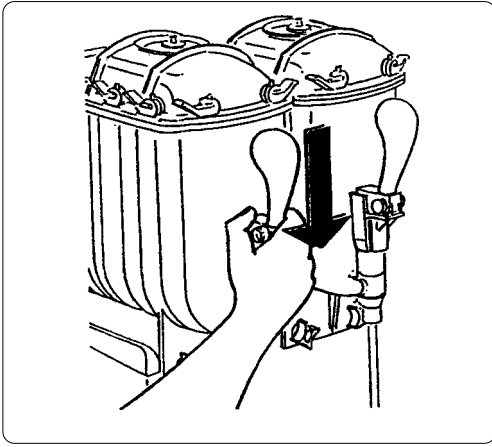

Fig. 39
n) Remount the tap, remembering to spread the Vaseline over both the seating and the sealing strips (fig. 39).